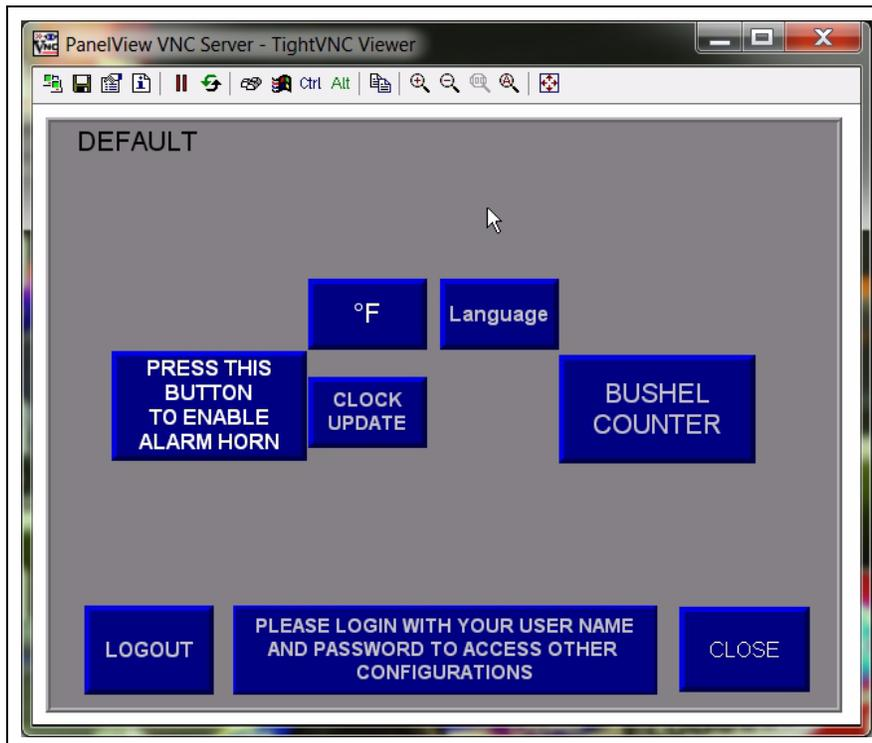

Figure 3B
2. Press the “Login with Your User name” on the default screen to access other options. (See Figure 3B.)